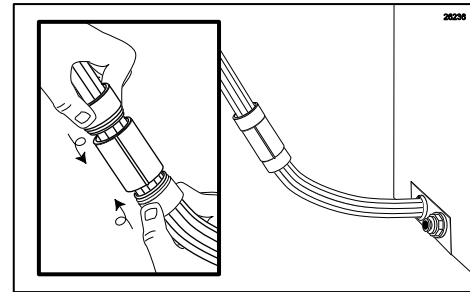

Figure 123
4. Slide the coupler casing over the connection and screw each coupler nut into each end of the casing. Tighten the coupler nuts to secure the connection. (See Figure 123.)